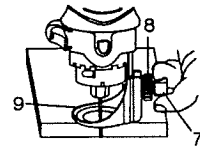

Fig. 11
- Adjust precision handle sole plate depth by loosening the depth gauge locking knob (7) and rotating the adjusting knob (8) to move the sole plate (9) in or out as required (see Fig. 11).